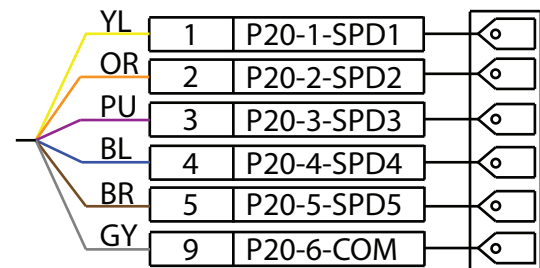

Fig. 23 — Constant Torque ECM Pin Diagram
3. Change the torque tap wire to on the molex plug to one of the five speed settings. See Fig. 23.